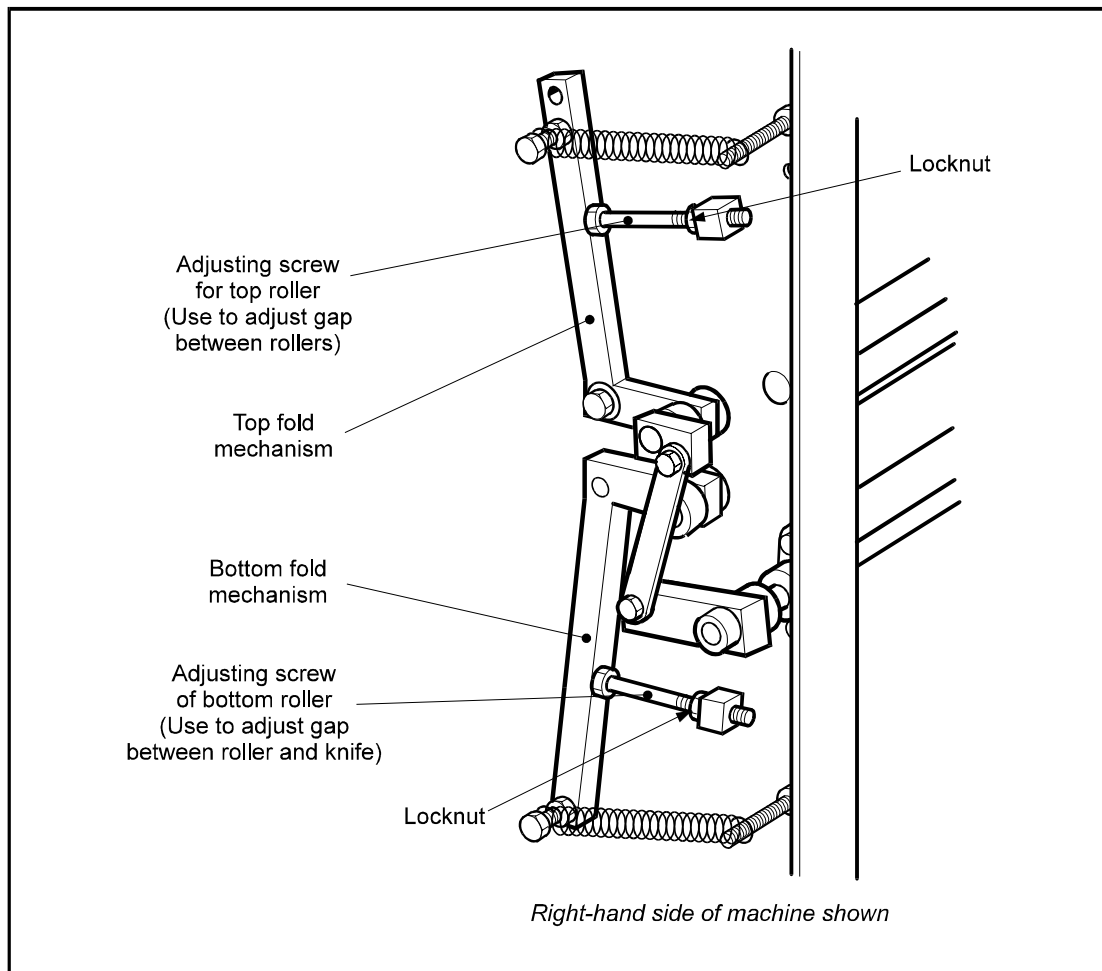

Figure 4.3 - Adjusting the knife assembly.
8. If the gap between the two rollers is not set correctly, the rollers can be adjusted by releasing the locknut on the top of the mechanism at the sides of the machine, figure 4.3.
9. If the knife is not parallel to the bottom roller, slacken the locknut on the bottom roller mechanism on both sides of the machine, figure 4.3, and reset the knife. It may be necessary to repeat step 8 if the knife has been reset.